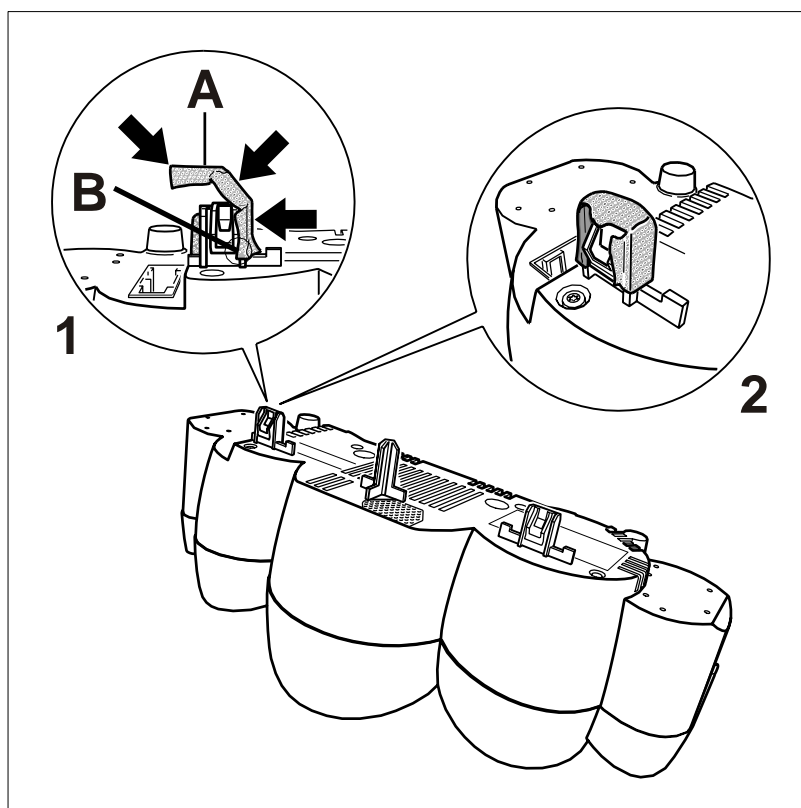

Figure 1
- 2.4 Center the tricot tape (⇒ *Figure 1 -Inset 1, Item A-*) at the lower edge of one centering pin (⇒ *Figure 1 -Inset 1, Item B-*) and then wrap it around the centering pin.
- 2.5 Press the tricot tape firmly onto the centering pin and turn it up at the corners (⇒ *Figure 1 -Inset 2-*).